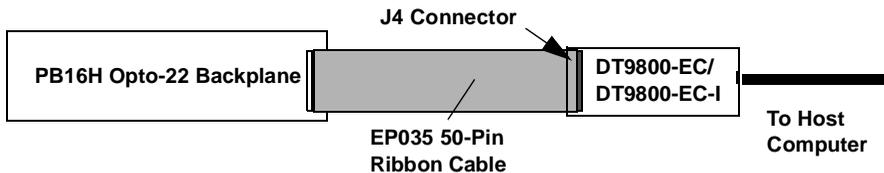

Figure 9: Connecting the PB16H Opto-22 Backplane to the DT9800-EC or DT9800-EC-I Series Function Module
2. Plug the other end of the EP035 cable into the 50-pin connector on the PB16H Opto-22 backplane, as shown in Figure 9.